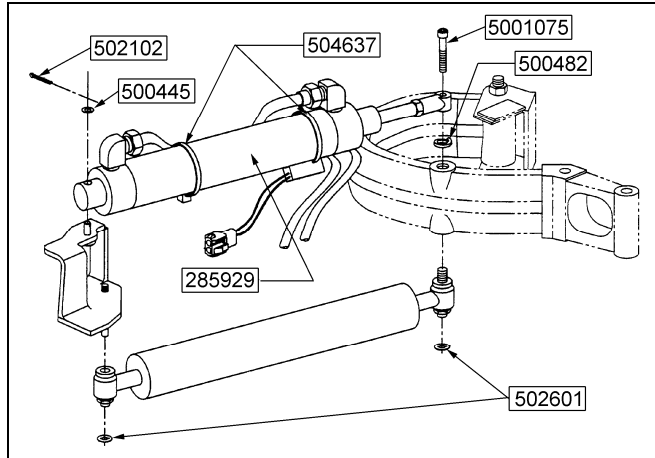

FIGURE 4: 2-INCH AIR CYLINDER ASSEMBLY INSTALLATION
5. Install rod end together with cylinder assembly onto the upper hinge, insert lock-washer (Prevost #500482) between rod end and hinge before securing assembly using cap screw (Prevost #5001075) (refer to figure 4).
7. Apply blue "Loctite" onto cylinder rod threaded part before fastening rod end (Prevost #502196). Fasten 90° elbow fittings (Prevost #641371) to new air cylinder. Install rod end together with air cylinder (Prevost #780813) onto the upper hinge, insert lock-washer (Prevost #500482) between rod end and hinge before tightening cap screw (Prevost #5001075) in order to secure the assembly (refer to figure 4).